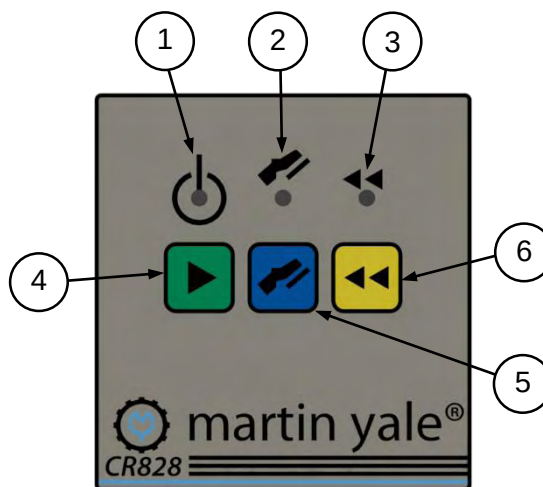

FIGURE 2: Control Panel
3.2 Control Panel (Figure 2)
- 5.2 The Footpedal control is turned on by default; to turn off the Footpedal, press the center button on the Control Panel. (Figure 2)
- 5.4 While holding paper in place, press the Footpedal (Figure 1) or Cycle Pushbutton (Figure 2).
1. Press the Reverse (Dejam) Pushbutton (Figure 2). The Reverse (Dejam) Indicator light will now be lit continuously.